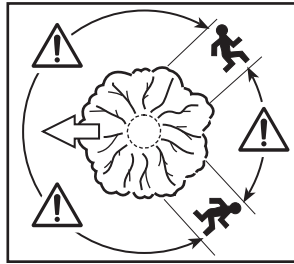

Fig. 26
- An escape path should be planned and cleared as necessary before cuts are started. The escape path should extend back and diagonally to the rear of the expected line of fall (Fig. 26).